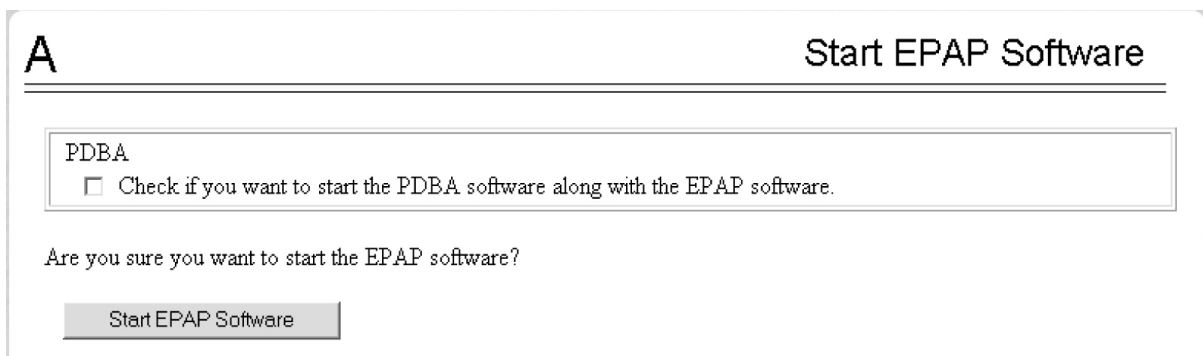

Figure 9: Start EPAP Software
10. On the Start EPAP Software screen shown in Figure 9: Start EPAP Software, click **Start EPAP Software**.